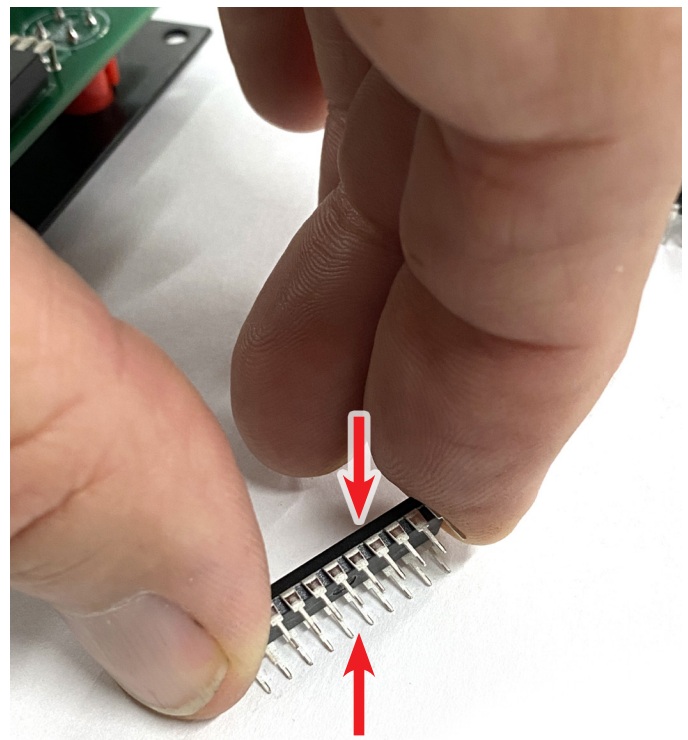

FIGURE 7—The red arrows indicate the direction and force necessary to bend the pins.
8. If the pins need to be bent in a little to align better with the holes, place the chip on its side on the table and gently push down on the chip to bend the pins inward (see Figure 7).